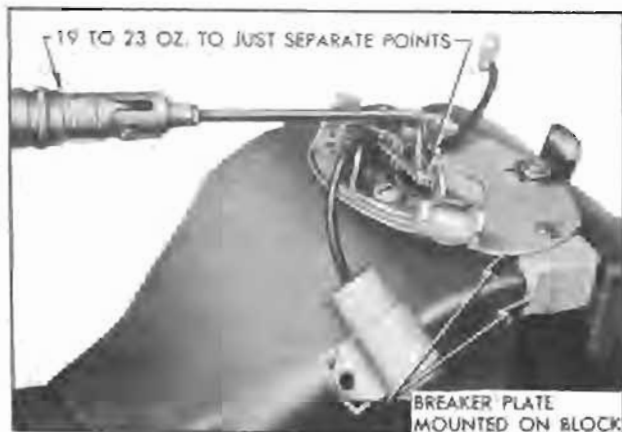

Figure 10-68—Checking Breaker Arm Spring Tension
5. Use a new spare breaker plate to temporarily mount parts so that contact point alignment and breaker arm spring tension can be adjusted. NOTE: A 1948 model breaker plate attached to a wood block makes a convenient fixture for these operations. See figure 10-68.
7. Attach hook of spring scale to breaker arm at side of contact point and check the tension required to just separate the points, with pull exerted at an angle of  $90^\circ$  with the point surface. See figure 10-68. Tension must be 19 to 23 ounces.